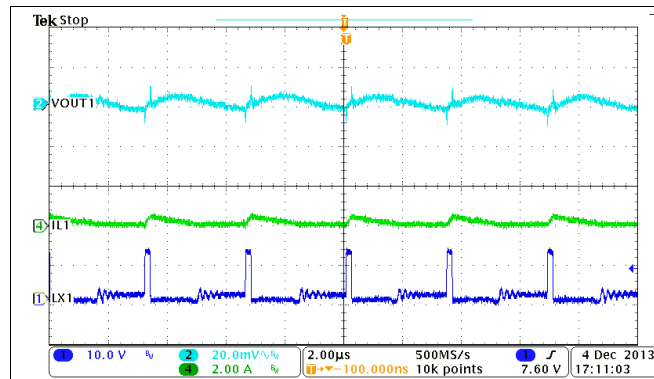
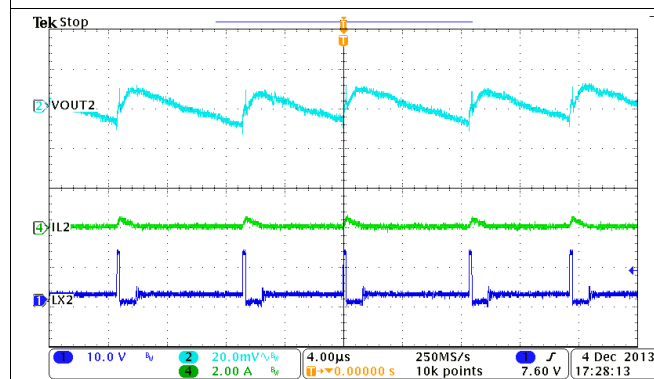
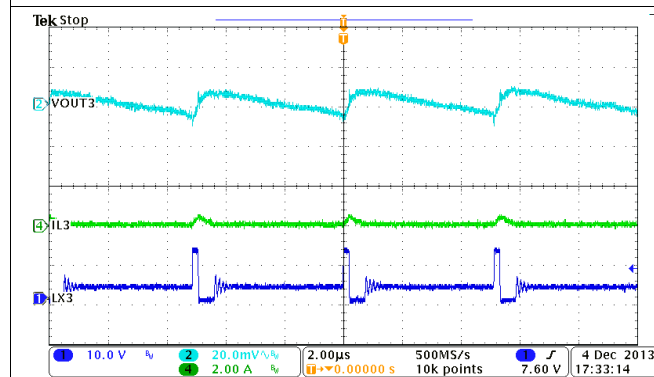

Figure 39. Buck1, Steady State Operation at Light Load
Figure 41. Buck2, Steady State Operation at Light Load
Figure 43. Buck3, Steady State Operation at Light Load
The device is designed to operate in high-efficiency PSM under light load conditions. Pulse skipping is initiated when the switch current falls to 0.23 A. During pulse skipping, the low-side FET is turned off. The switching node (LX) waveform takes on the characteristics of DCM operation and the apparent switching frequency decreases as shown in Figure 39, Figure 41, and Figure 43.